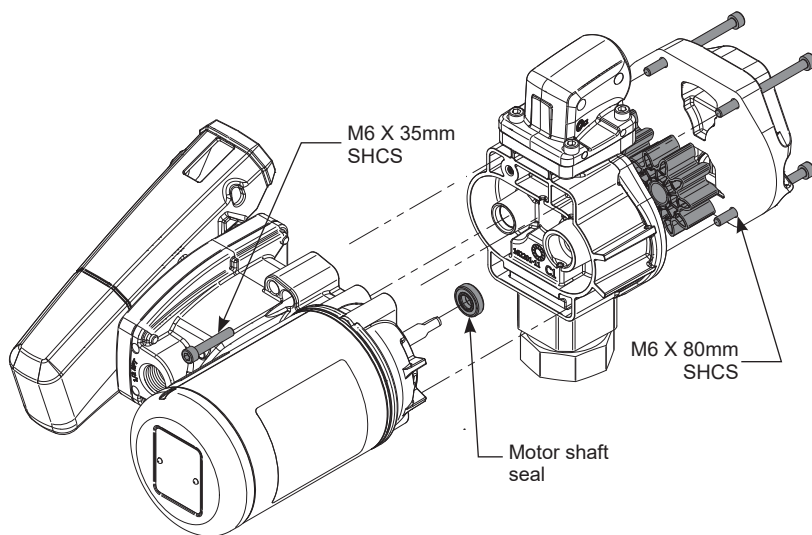

Figure 14
2. Using a 5mm Hex wrench, remove the (4) M6 x 80mm SHCS on gear coverplate and (1) M6 x 35mm SHCS located on back of pump housing. Separate pump housing and fittings from drive shaft (see Figure 14).
3. Remove motor shaft seal from pump housing (see Figure 14).